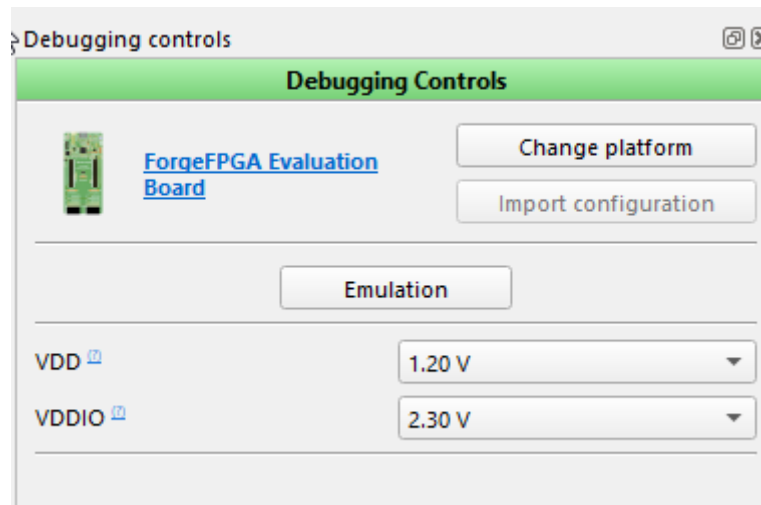

Figure 6: Evaluation Board Settings
- Connect the Evaluation Board to your system and now connect PmodSSD to the GPIOs on the board. Once the connection has been established, click on the Debug button on the ForgeFPGA Workshop studio, select platform as ForgeFPGA Evaluation Board and select Emulation. Make sure the VDD = 1.2V and VDDIO = 2.3V (Figure 6)